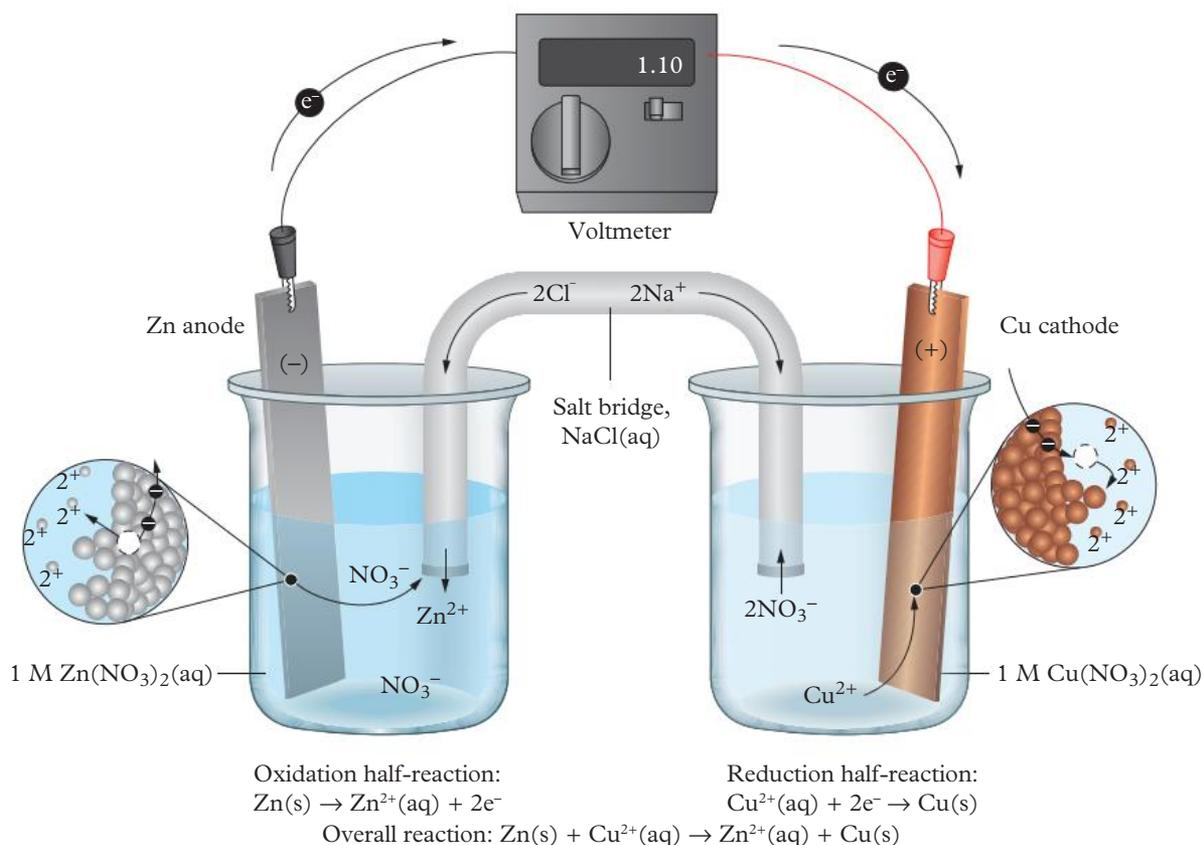

FIGURE 9 The cell diagram for the Cu²⁺ and Zn galvanic cell
- 3 The overall equation is shown in the cell diagram in Figure 9.